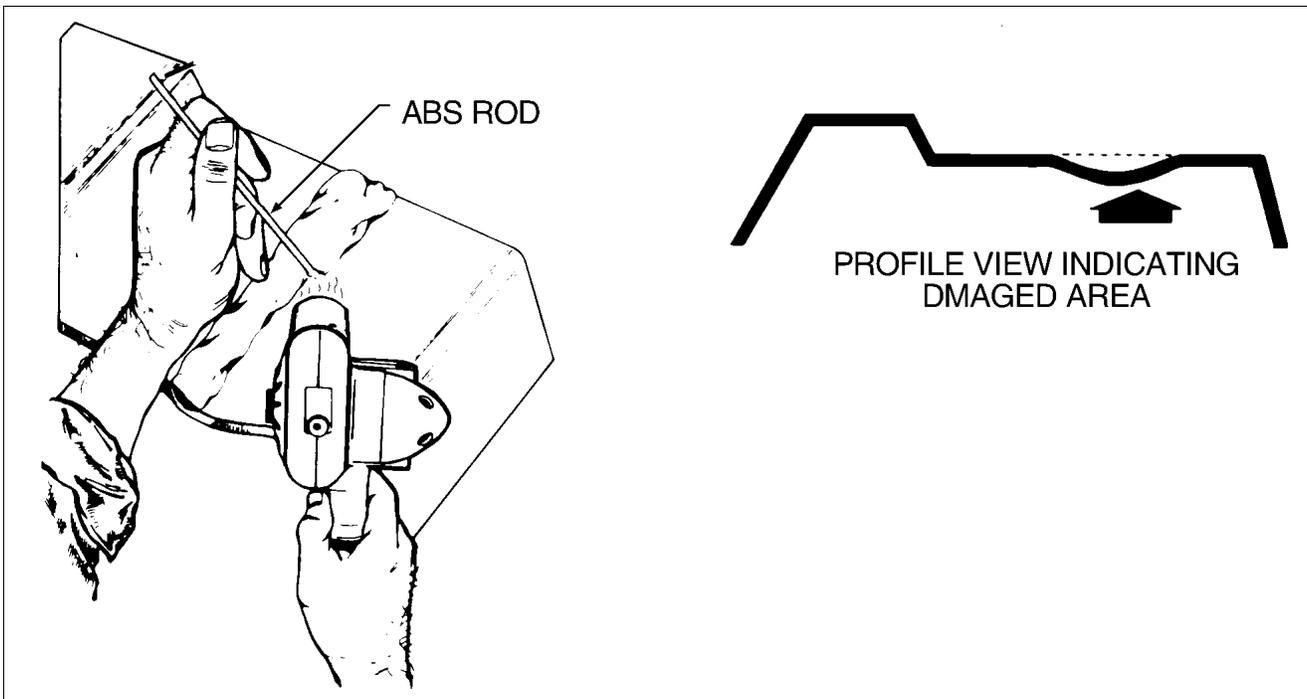

Figure 51-9. Repair of Impact Damage
- (1) Stress lines produce a whitened appearance in a localized area and generally emanate from severe bending or impacting of material. (Refer to Figure 51-9.)
- (2) To restore material to its original condition and color, use a hot air gun or similar heating device and carefully apply heat to affected area. Do not overheat material.